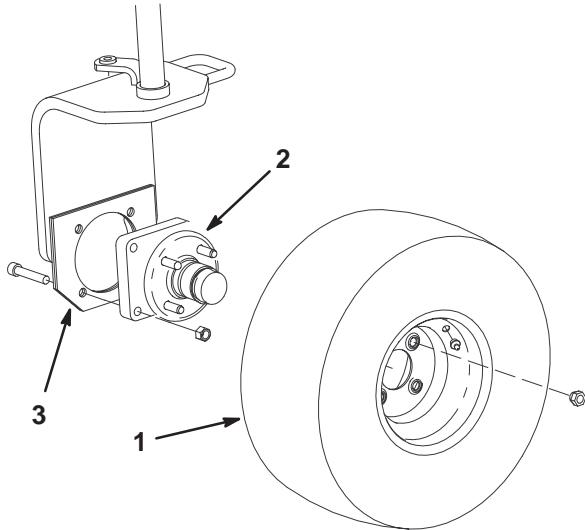

Figure 1
- Lift the rear of the traction unit and remove the lug nuts securing the tire assembly to the wheel hub (Fig. 1). Retain the lug nuts.
- Remove the bolts and nuts securing the wheel hub assembly to the castor fork (Fig. 1). Discard the wheel hub assembly but retain the bolts and the nuts.